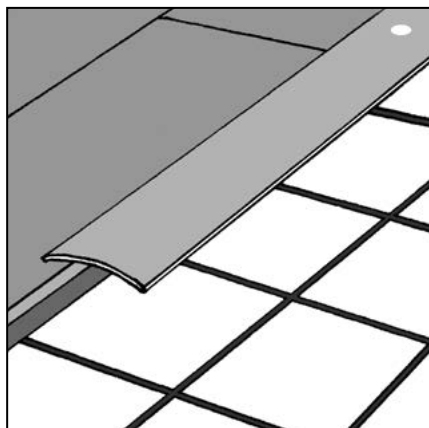

Figure 58 Threshold strip
- ▶ When adjoining other floor coverings, finish in the doorway. An appropriate expansion gap should be left between the interlocking flooring and the adjoining floor covering. This can be covered using a suitable threshold or diminishing strip (Fig 58 overleaf).